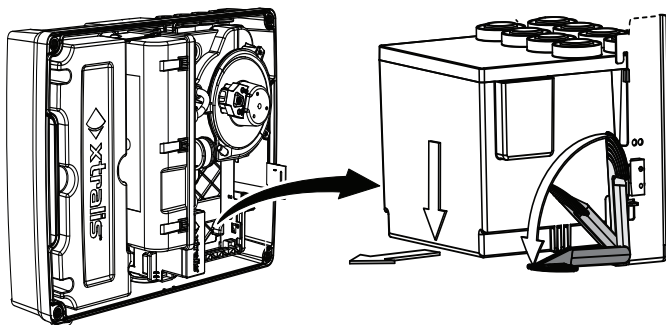

Figure 7-7: Intelligent Filter Removal
4. Remove the Intelligent Filter (Figure 7-7). Refer to Section 7.3 on page 55 for further information.